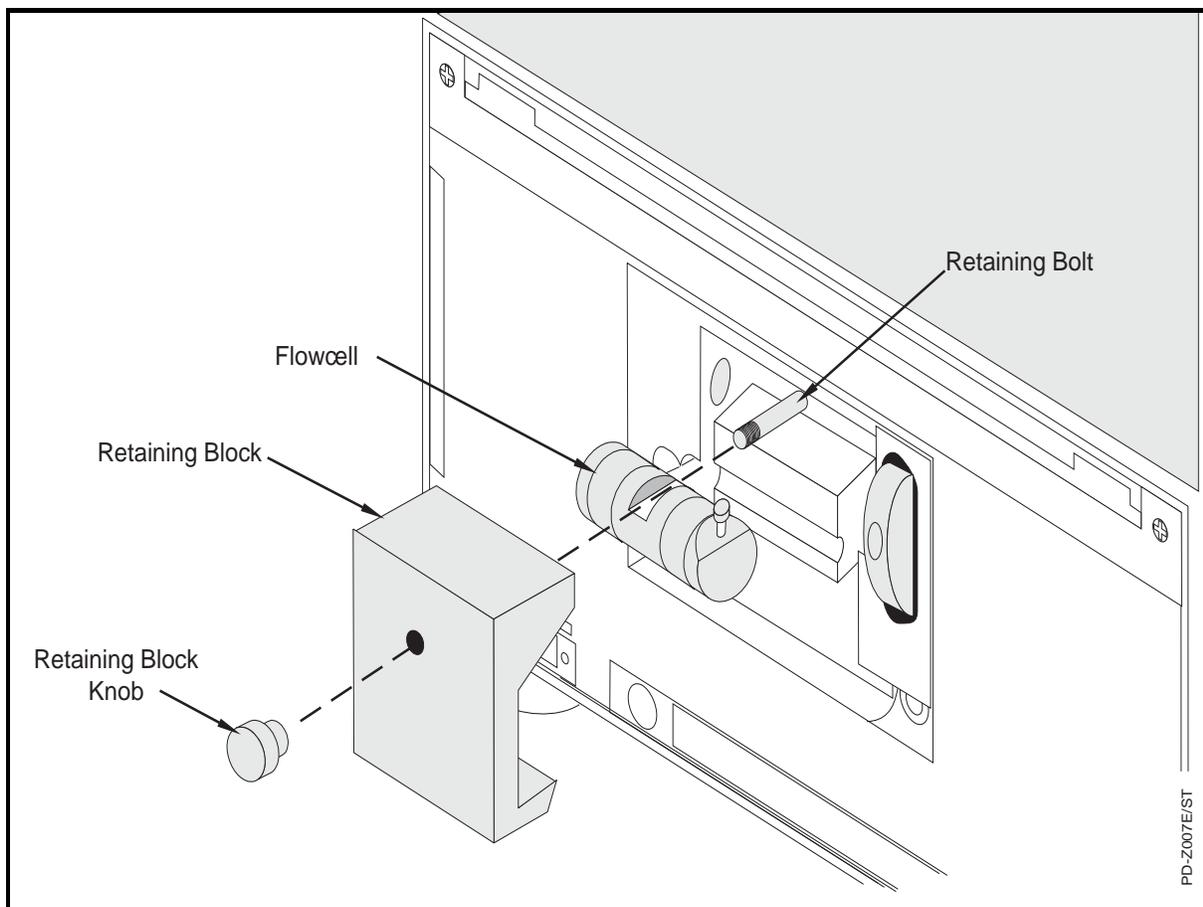

Figure 2.5 Flowcell installation
2. Remove the flowcell cover by gently pulling the snap latch to free the cover. Remove the retaining block knob and retaining block (Figure 2.5).